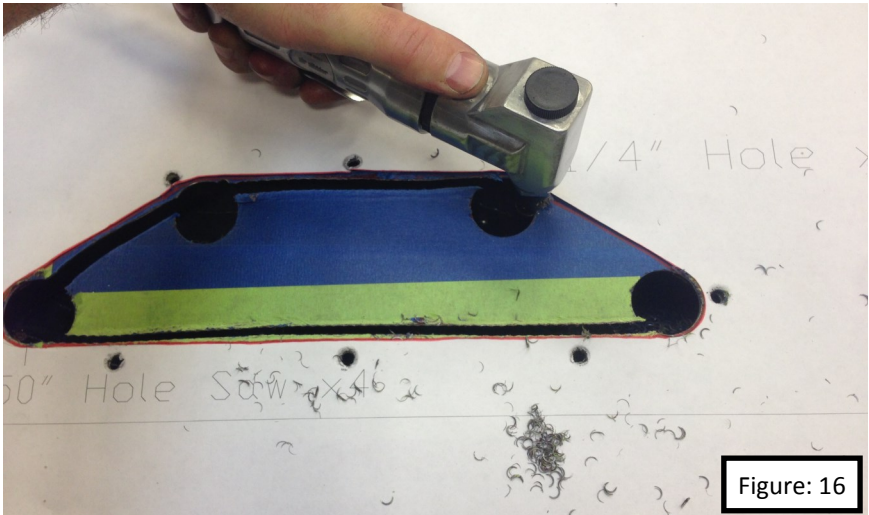

Figure: 16
20. Cut out the interior portion of the traced line. It is best to make your cut to the inside of the line. It is easier to remove material than add. Figure: 16